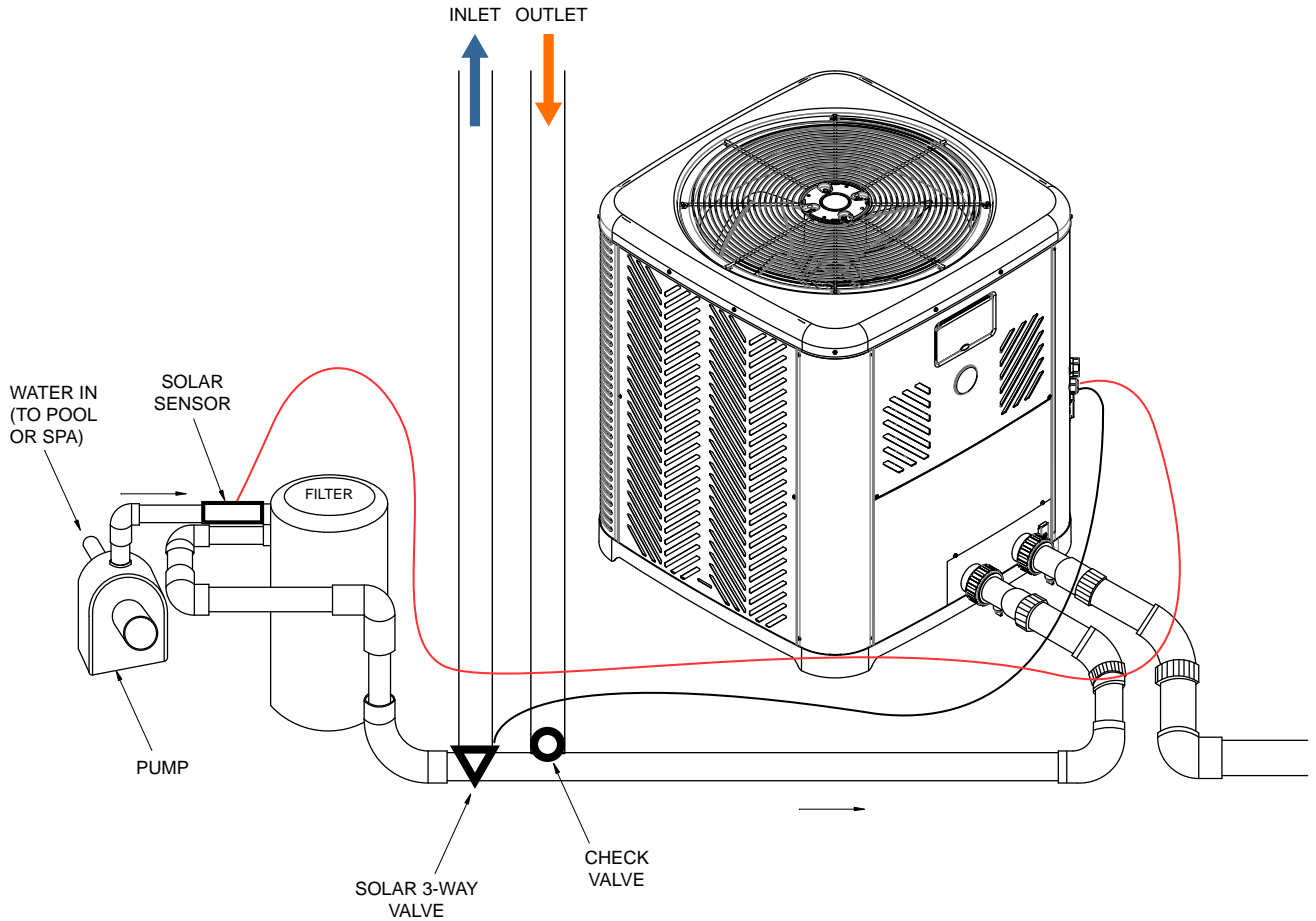

Figure 154. Solar Heater Components in the Piping
3. Install a "check valve" at the outlet of the solar heater to prevent backflow to the solar collector. See Figure 154.